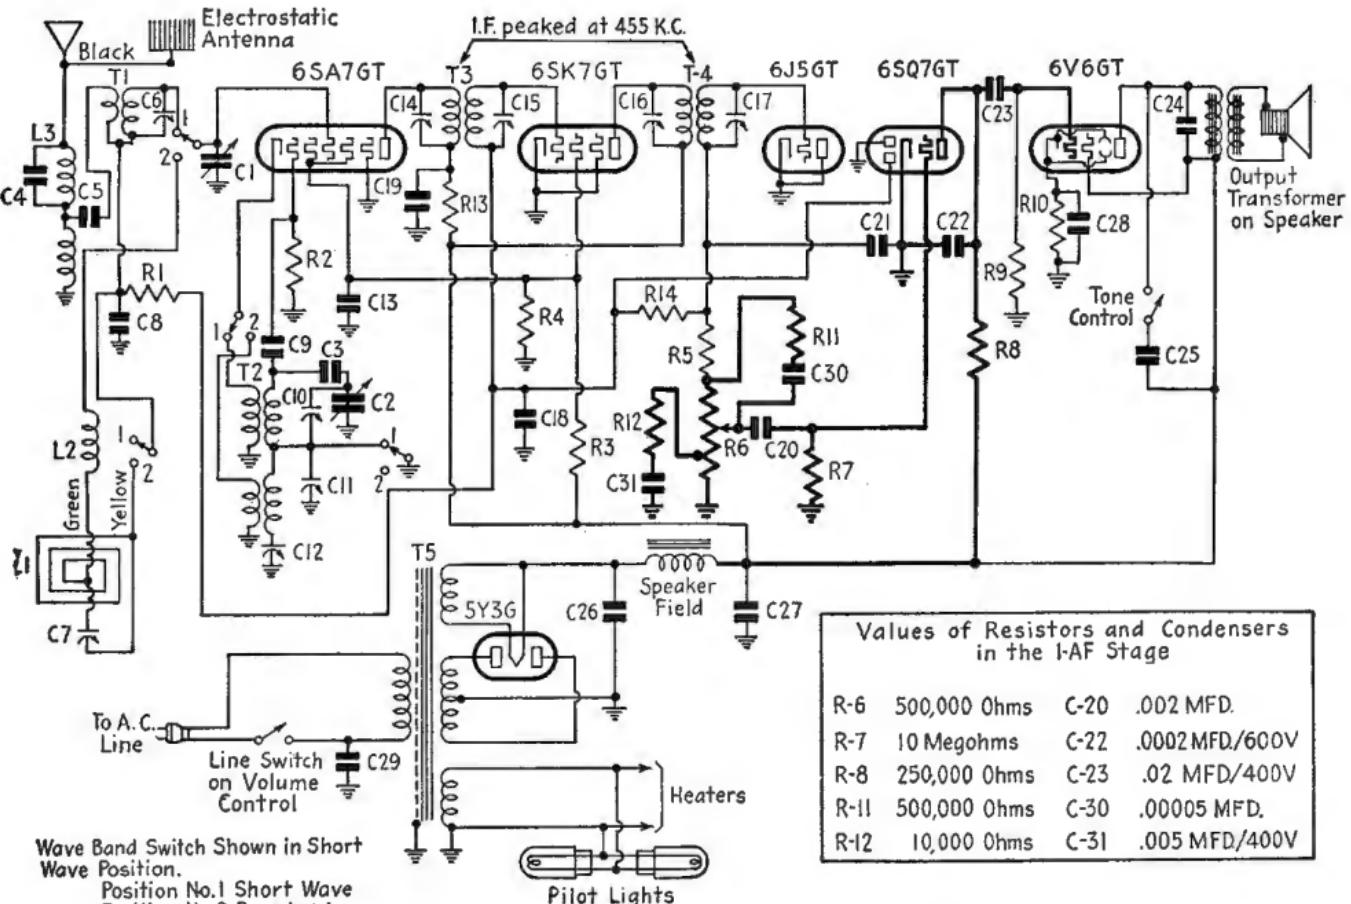

Fig. 11-24.—Emerson Model EQ-368 receiver. The first AF circuit is shown in heavy lines.
Figure 11-24 illustrates some of the points taken up in this chapter on the first AF stage. Note the tone-compensation circuit connected to the volume control *R*-6. At high-volume levels the filter is ineffective. When the potentiometer arm is in a low-volume position near the tap, condenser *C*-31 and resistor *R*-12 by-pass high audio frequencies to ground. Since the attenuation of very high audio frequencies will be excessive, the circuit composed of *R*-11 and *C*-30 restores some of these frequencies to the arm of the volume control. The net result is an increase in low AF response at low-volume levels without entirely removing the high audio frequencies.
2. The receiver of Fig. 11-24 has poor tone quality. A voltage check shows 50 volts on the first AF plate. What is likely to be wrong and how would you confirm your assumption?
3. The receiver of Fig. 11-24 has a noisy volume control. After the volume control is replaced with an exact replacement, the volume remains at one level regardless of the position of the control arm. What is wrong? How would you check to prove it?